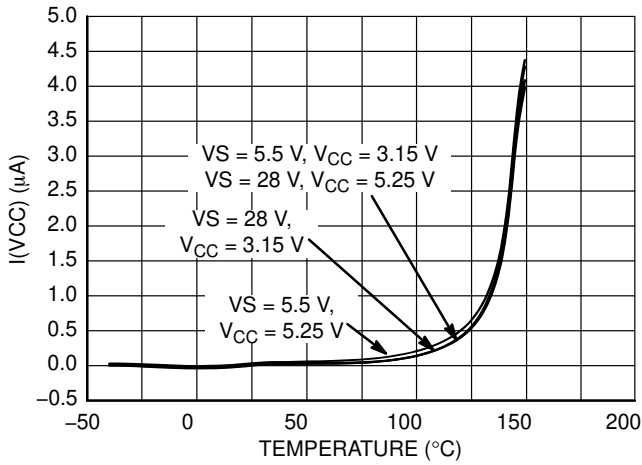

Figure 17. I(VCC) vs. Temperature
- Refer to Figure 17 for the V_{CC} standby current behavior.